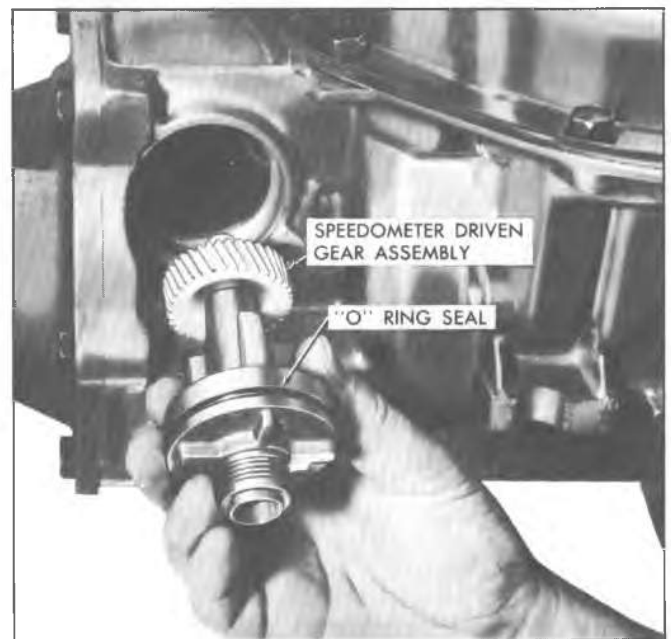

Fig. 7A-188C--Installing Speedometer Driven Gear and Sleeve
1. Install speedometer driven gear assembly (Fig. 7A-188C).